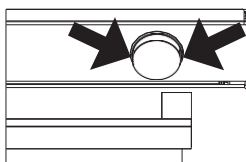
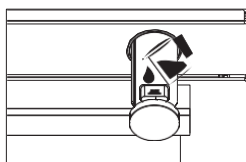
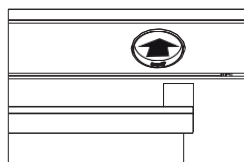

Figure 4
Figure 5
Figure 7
1. Remove the water container by pulling it out at the points indicated by the arrow. Fill the water container (see figure 4) and slide it in the direction of the arrow to the starting position to put it in place (see figure 5,6). After 10 minutes of preheating, slide the water container in the direction of the arrow until you hear a "click" (see figure 7).